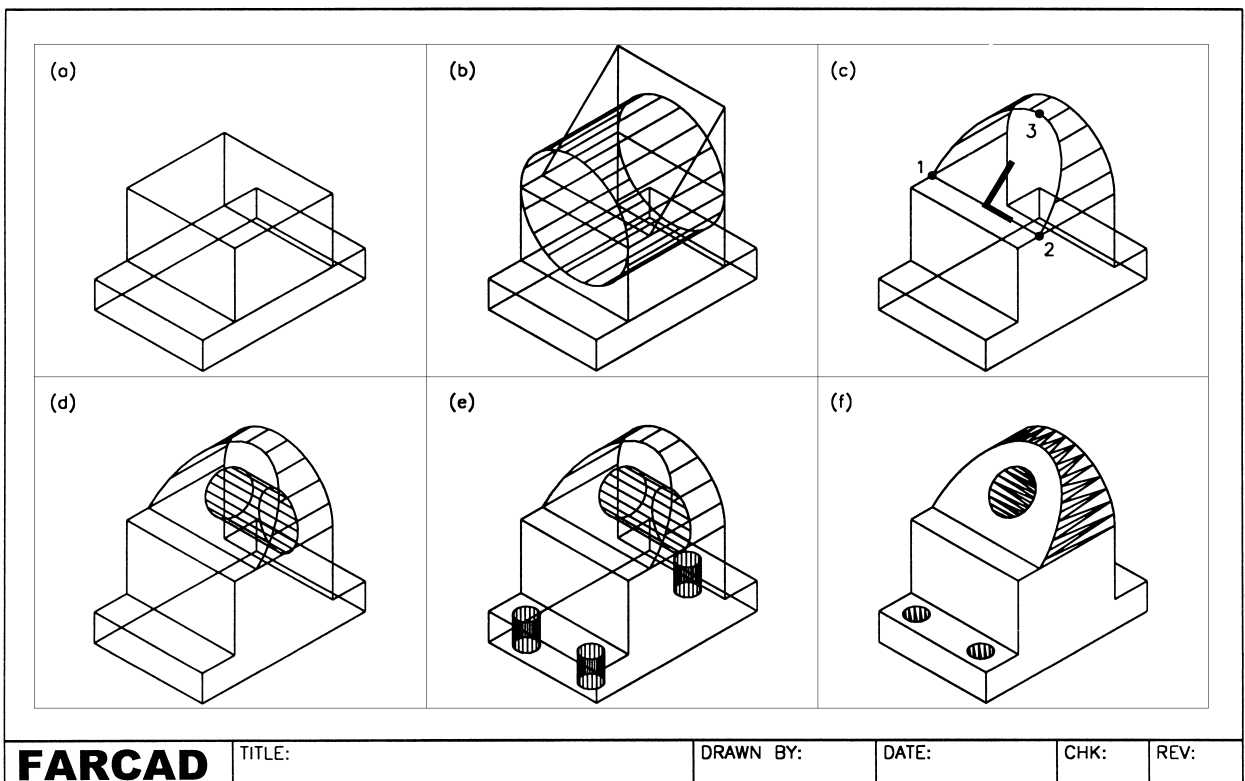

Figure 31.1 Creation of composite model 1 – a machine support.
- 2 Refer to Fig. 31.1 which displays only the 3D viewport of the model at various stages of its construction